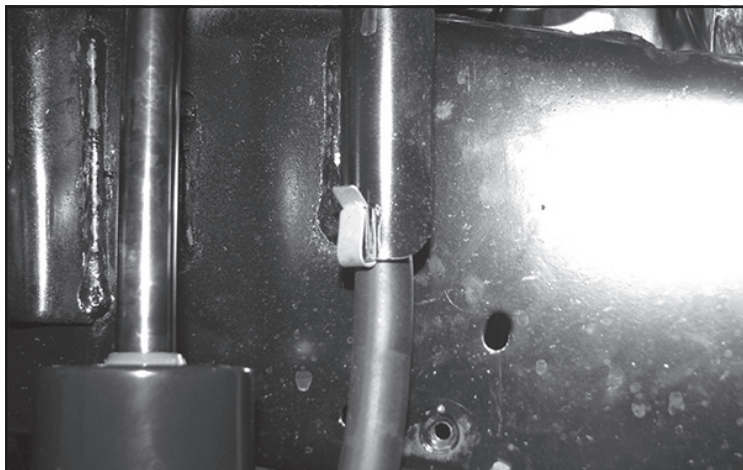
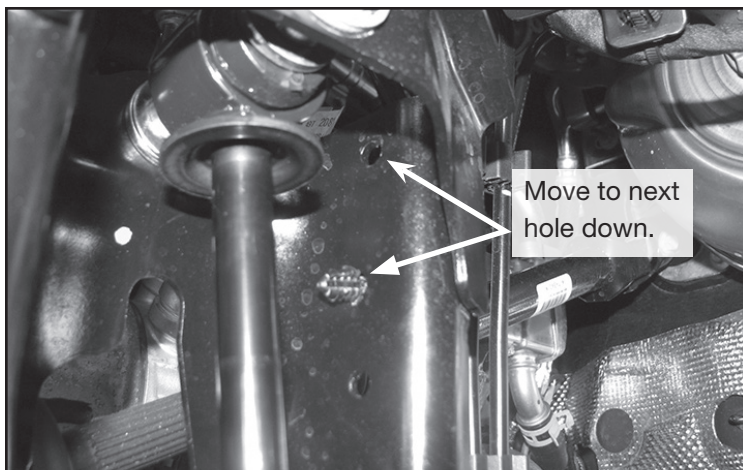

FIGURE 22 - STEP 22
FIGURE 23 - STEP 22
22. Reinstall the diff breather hose by moving the metal clip up the hose 2" **SEE FIGURE 22** and the christmas tree fastener into the next hole down. **SEE FIGURE 23.**